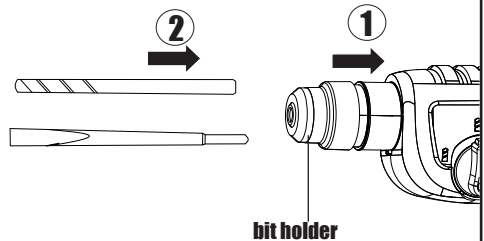

Fig. B1
2. FITTING SDS TOOLS (See Fig. B1)